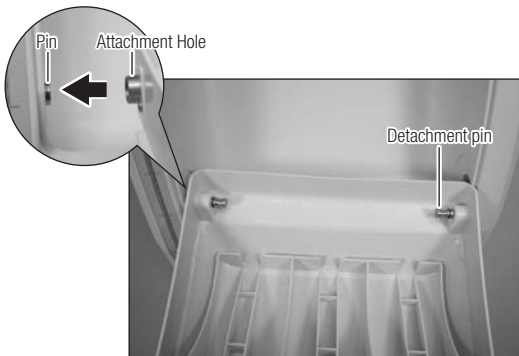

Abb. 17
- 1) Insert the pin to the left Attachment Hole of the Door. (Fig. 17)